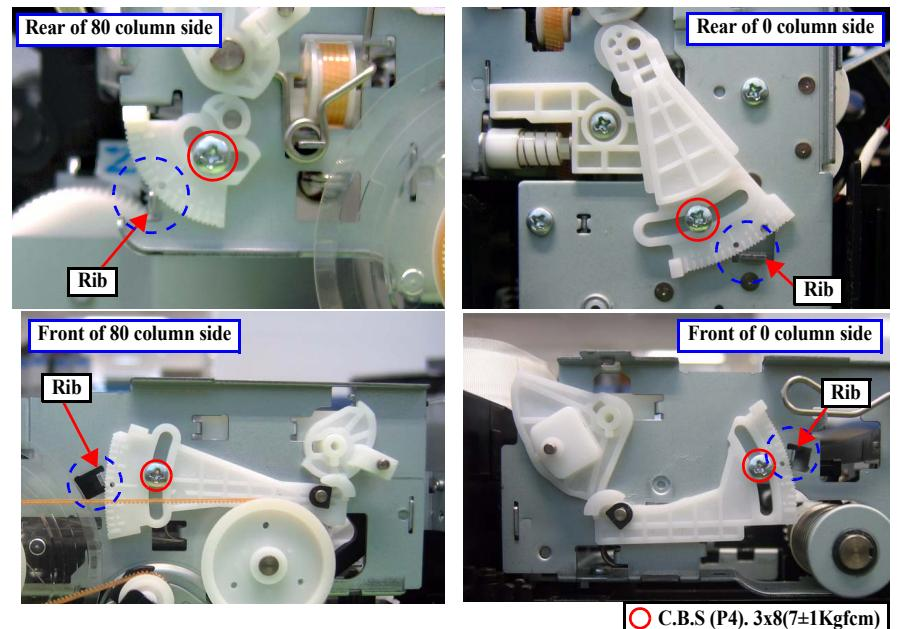

Figure 5-34. Positions of parallelism adjustment bushings
- Loosen all the screws that secure each parallelism adjustment bushing. (Fig. 5-34)
6. Tighten the screw of each parallelism adjustment bushing to secure them. (Fig. 5-34)